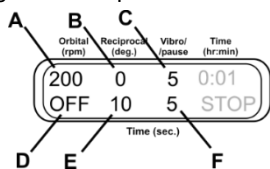
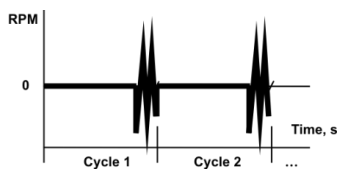

Figure 11.
Figure 12.
- 6.9.4 **Vibration + Pause.** Turn off Orbital motion by setting time of Orbital motion below zero (fig. 11/D, OFF). Set the amplitude of Reciprocal motion (fig. 11/B) to zero. Set the time for Reciprocal motion (fig. 11/E, 1–250 s), this is the time of pause duration. Set the amplitude (fig. 11/C, 0–5°) and time (fig. 11/F, 1–5 s) for Vibro motion. See figure 12 for process visualization.